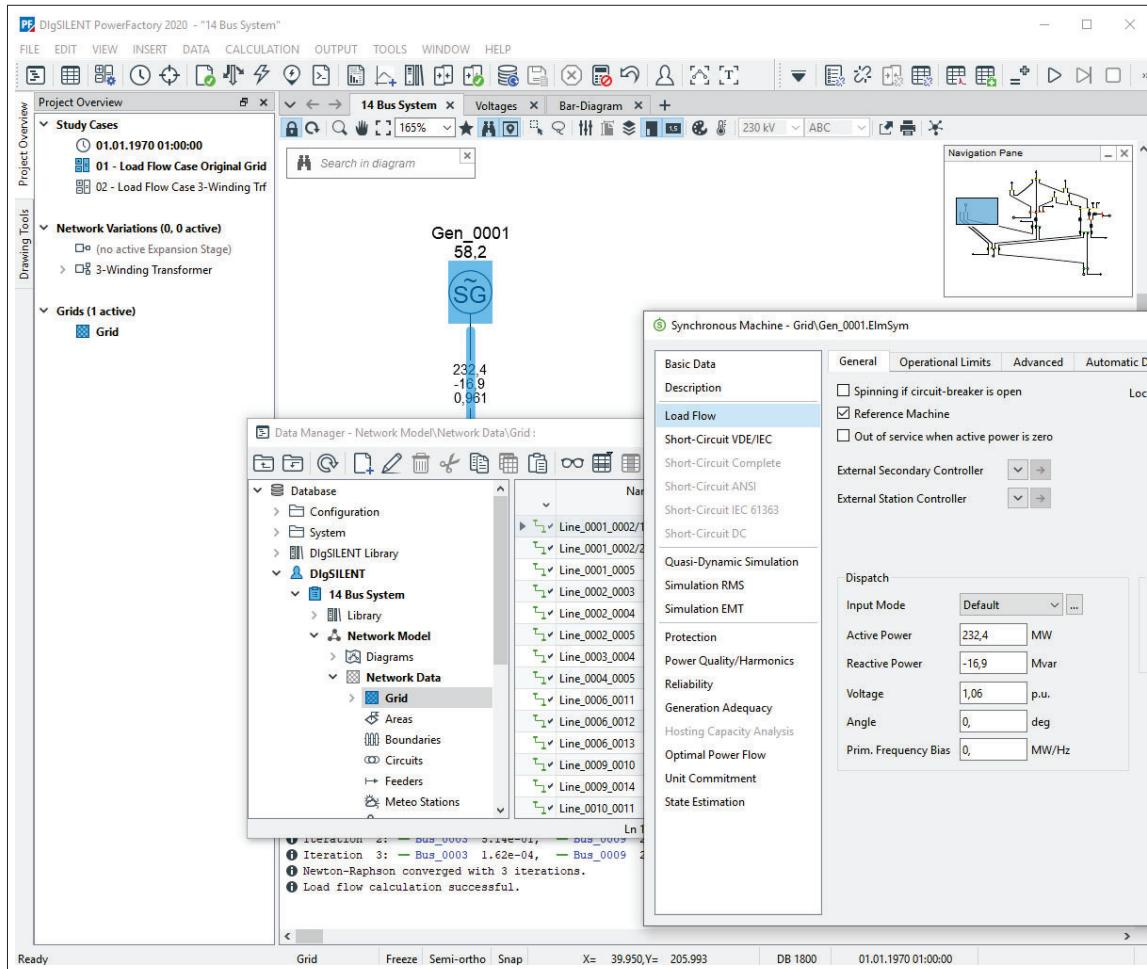

Figure 4.7.2: *PowerFactory* user interface
The main *PowerFactory* window is shown in Figure 4.7.2.
6. When an object is double clicked its edit dialog will be displayed. The edit dialog is the interface between an object and the user. The parameters defining the object are accessed through this edit dialog. Normally an edit dialog is composed of several “pages”. Each page groups parameters that are relevant to a certain function. In Figure 4.7.2 the Load Flow page of a generator is shown, where only generator parameters relevant to load flow calculations are shown.
10. The Drawing Tools window is by default also on the left-hand side of the user interface. In Figure 4.7.2 it is behind the Project Overview, but it can be selected via the tab, and will automatically come to the front if "freeze mode" is removed (see section 9.2.7 for more information.)
The main *PowerFactory* toolbar provides the user with quick access to the main commands available in the program (see Figure 4.7.2). Buttons that appear in grey are only active when appropriate. All command icons are equipped with balloon help text which are displayed when the cursor is held still over the icon for a moment, and no key is pressed.